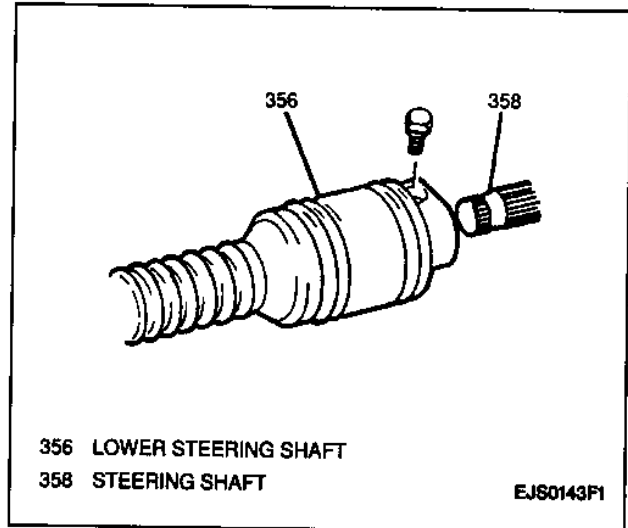

Figure 18—Removing Steering Column Joint Bolt
9. Steering shaft from lower steering shaft joint by removing one bolt (Figure 18).
5. Steering shaft from lower steering shaft by removing one joint bolt (Figure 18).